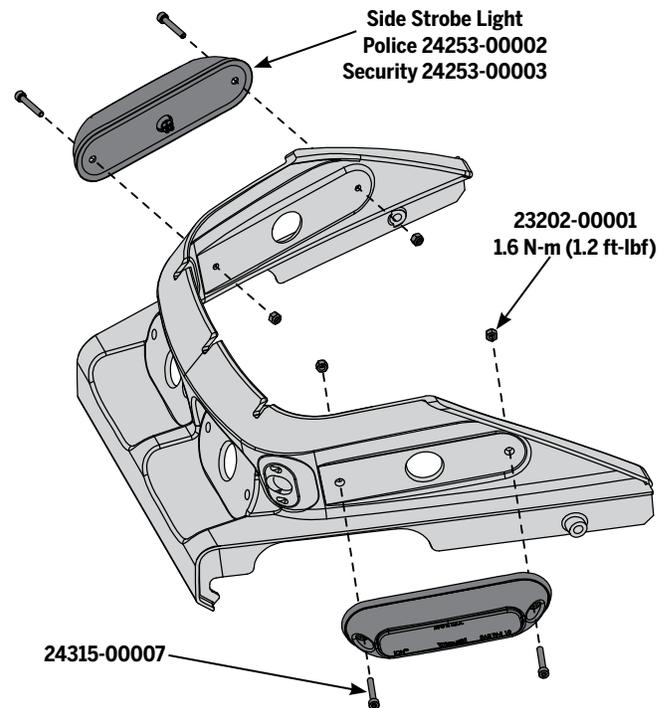

Figure 53: Side Strobe Lights
4. Using a 3 mm hex wrench and a 7 mm socket wrench, remove the two fasteners securing the light. See **Figure 53**.
4. Slide the plastic sleeves onto the fasteners, then install the fasteners and lock nuts (**Figure 53**).